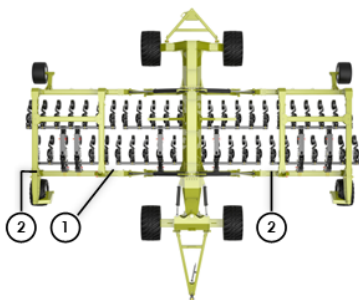

Figure 2.7 Three-Section Double Disc Drill
The three-section double disc drill (Figure 2.7) has a center frame (1) with two folding wings (2). The three-section drill is only available in 12.19 m (40 ft) width.